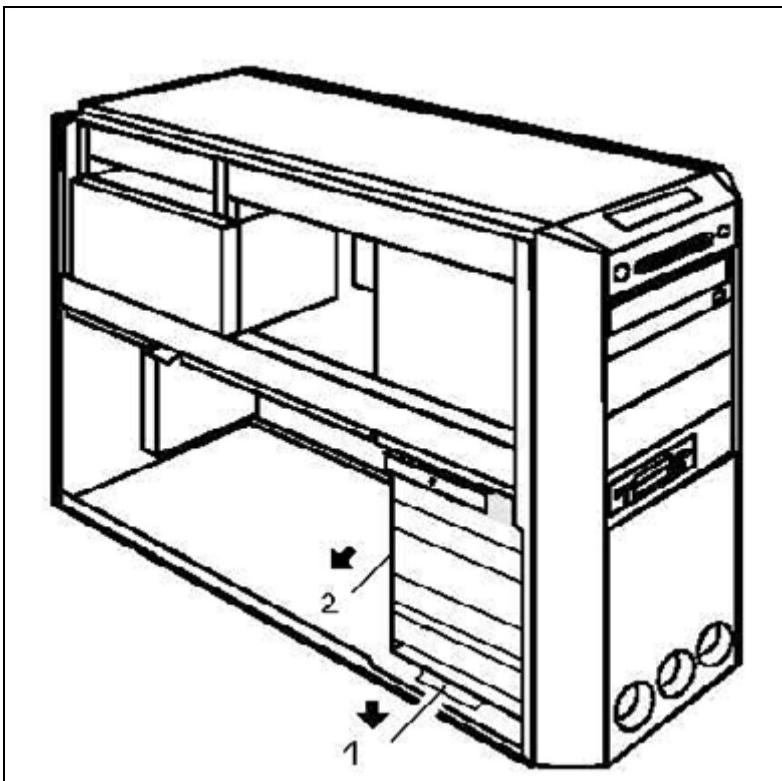

Fig. 58: Replacing a PCI board\_2
6. Press the locking bar (1/Fig. 58 / p. 104) down and pull the hard drive casing (2/Fig. 58 / p. 104) out of the PC.